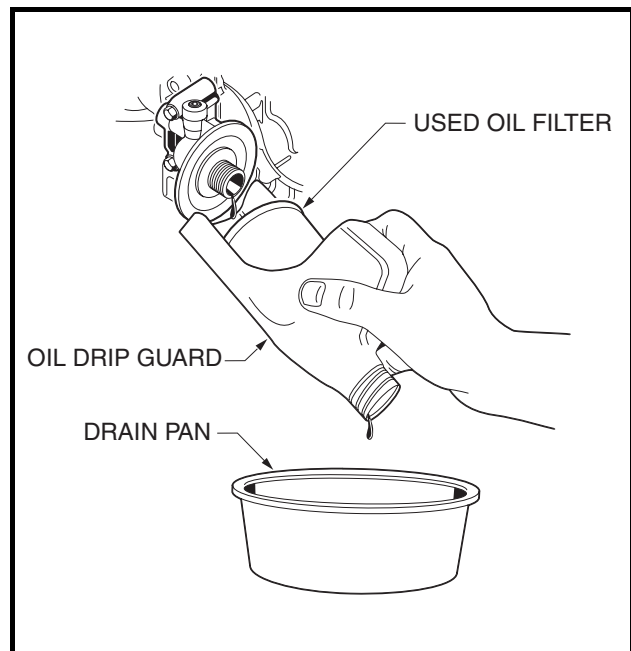

Figure 20 Remove Engine Oil Filter
11. Remove the engine oil filter, turning it counterclockwise, allowing the residual oil in the filter port and filter to drain into the oil drain pan (**Figure 20**). **See following NOTE.**
NOTE: An oil drip guard can be used to prevent excess oil from dripping into the engine base plate. Use an empty quart (1 liter) container and cut the bottom off at an angle, then slide the open area of the container up and under the oil filter prior to removal. Position the port of the plastic container so oil will be directed into the oil pan (**Figure 20**). A drip guard can be made by folding a piece of cardboard, thin metal, or plastic under the oil filter, forming a channel to direct the filter port oil into the drain pan.